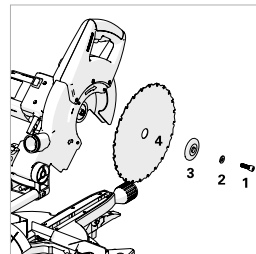

Fig. 40a
- Using the supplied Hex Key, release the arbor screw and remove the washer and outer-blade flange and the blade from the arbor. (**Fig. 40a**).